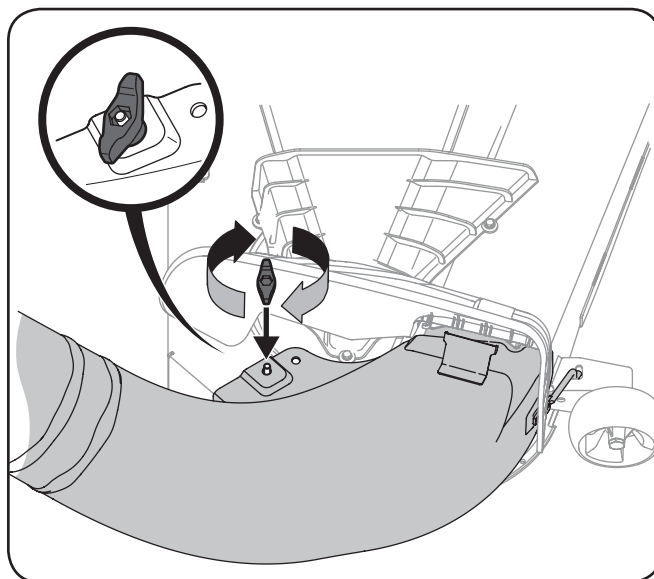

Figure 4-17
6. Secure the discharge chute elbow to the cutting deck using a (720-04122) wing knob included in Hardware Pack 689-00341. Refer to Figure 4-17.